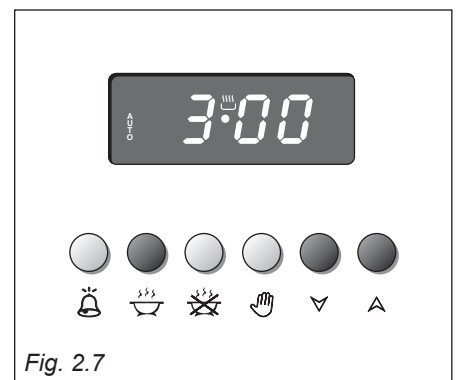

Fig. 2.7
1. Set the length of time you need to cook the food by pushing the  button and the  button to advance, or  to go backwards (Fig. 2.7). This sets the desired "stop" time.